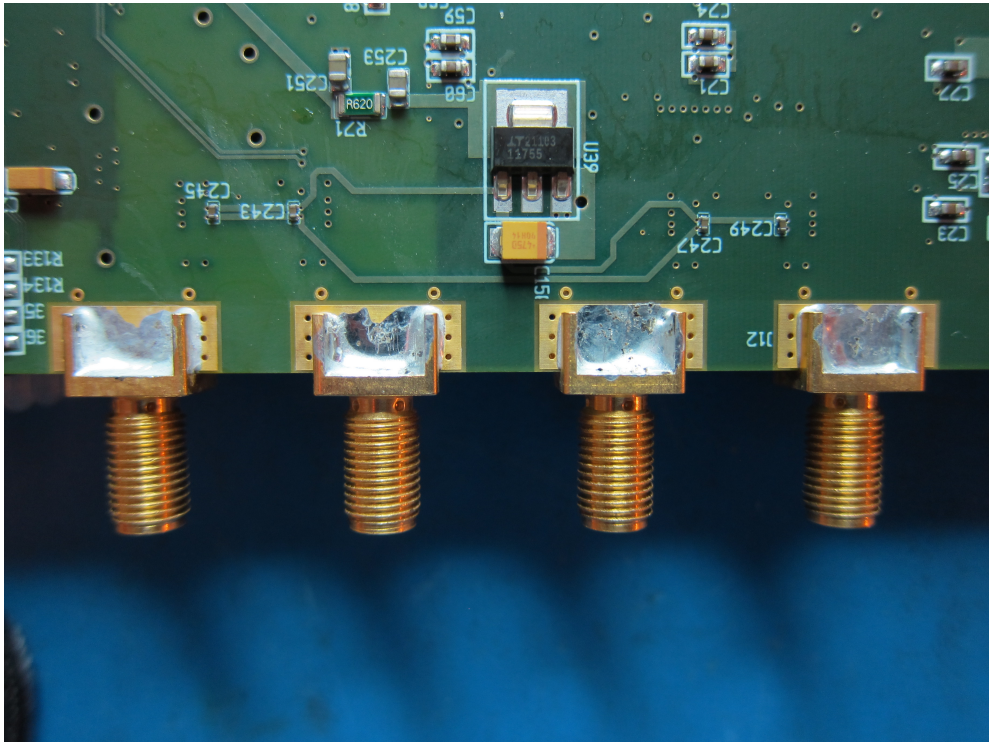

Figure 30: Back side soldering of the SMA connectors.
9. Turn over the PCB and solder the SMA connectors, ensuring full solder seal between the connector and the PCB as shown in Figure 30.